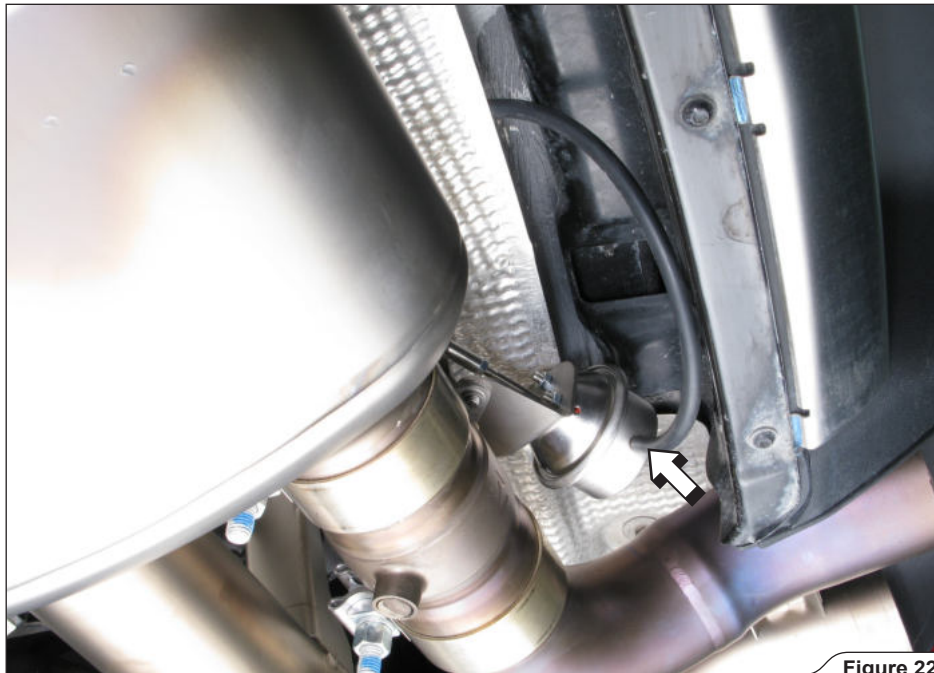

Figure 22
17. Reinstall the Akrapovič muffler onto the vehicle. Connect the vacuum hoses to both vacuum actuators (Figure 22).